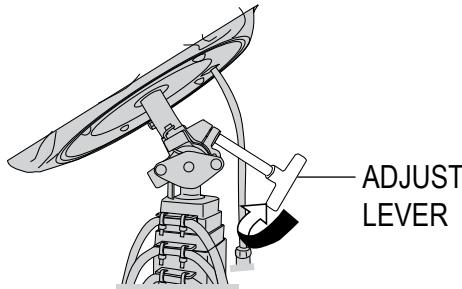

Figure 10. Loosen Adjust Lever
1. Loosen the adjust ever at the bottom of the balloon light assembly (Figure 10).